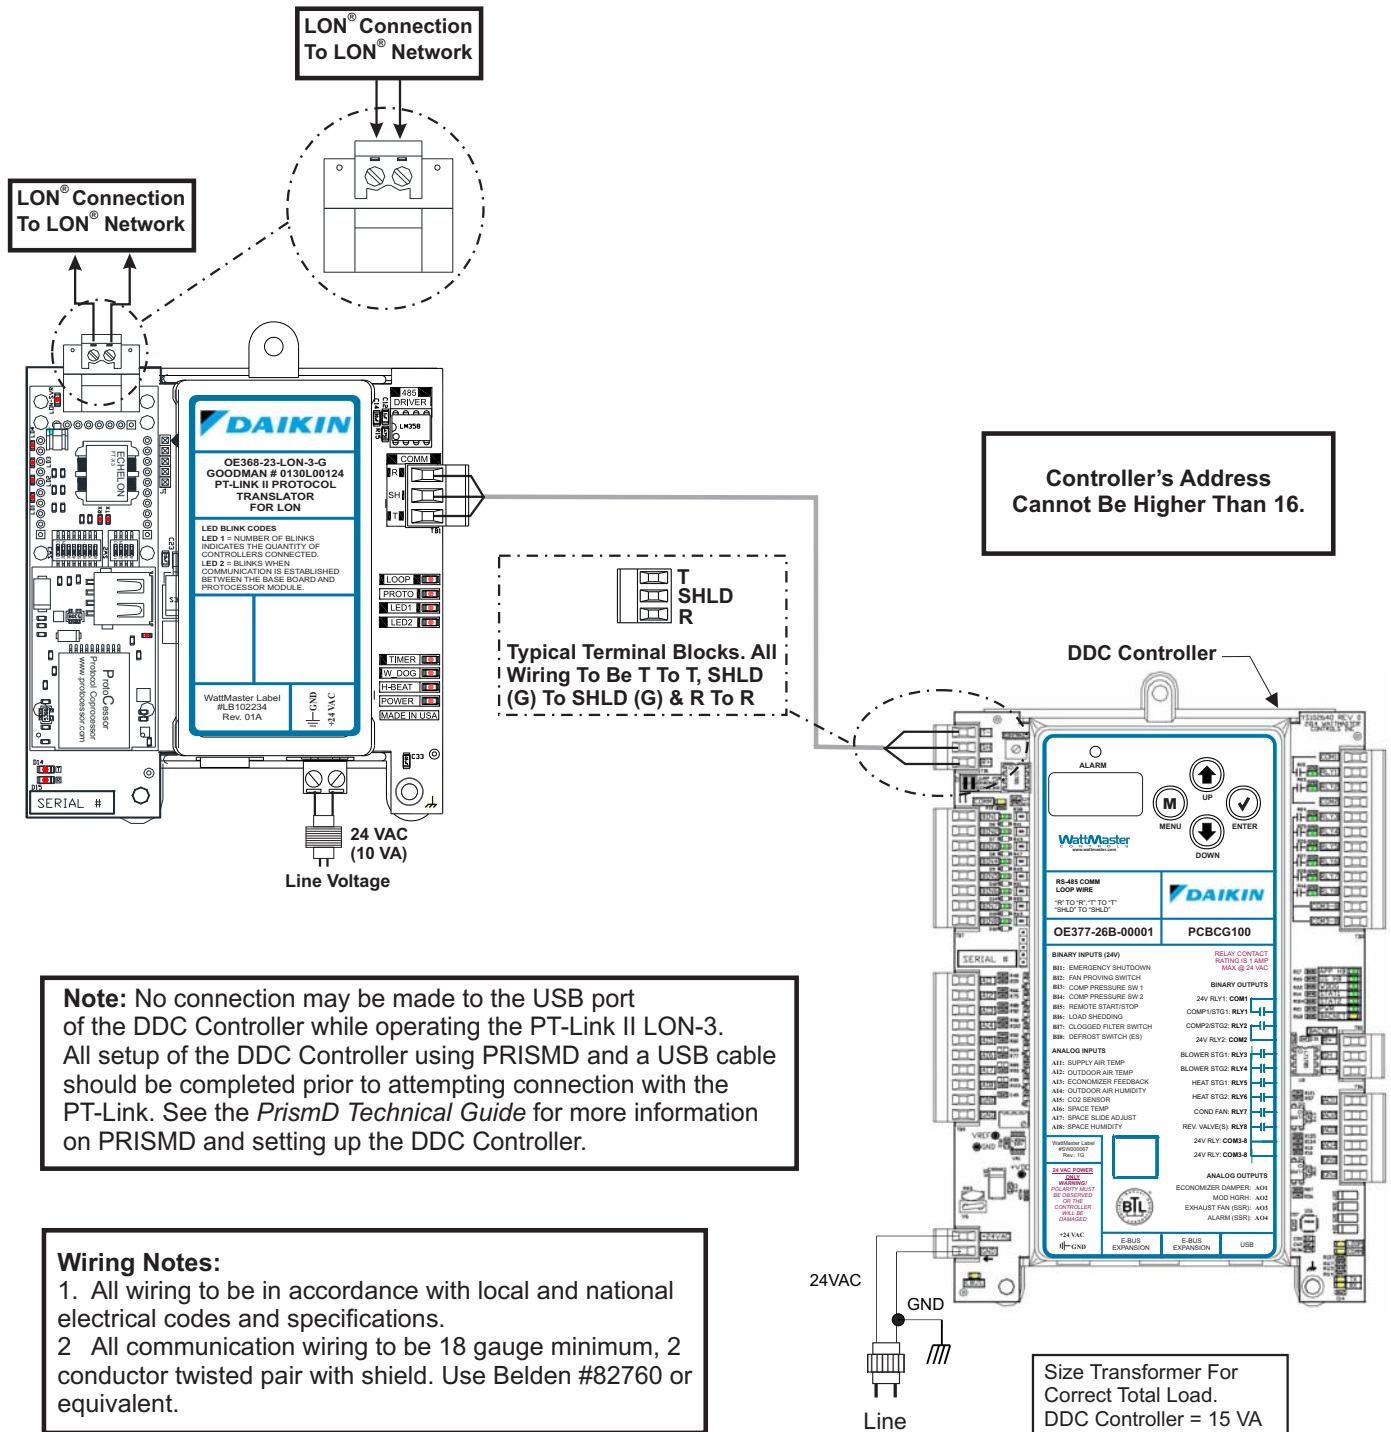

Figure 2: PT-Link II LON-3® Interface Wiring
3. Connect your PT-Link II LON-3 to the DDC Controller on your system (only one) and connect your PT-Link II to the LON Network (**Figure 2, page 6**). Note that nothing should